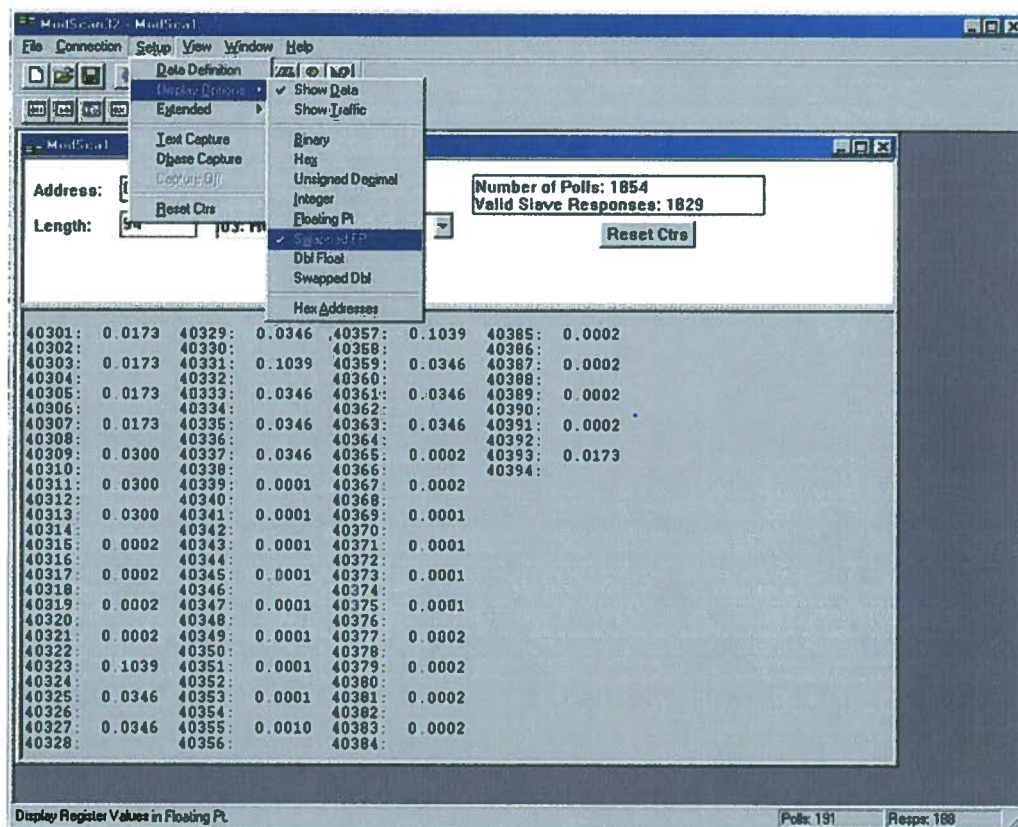

Figure 7
Figure 7 above shows the Scaling\_Factors for our example being used. Note that these values are defined as "Swapped FP."
**NOTE: Subtract 1 from the register numbers shown in Figure 7 to obtain the corresponding register numbers given in the manual. The software that is being illustrated starts with 301 rather than 300.**